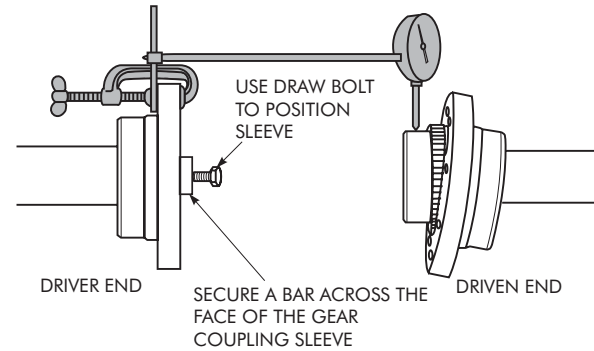

Figure 4
- C. Install and align the Type G gear coupling sleeves and hubs per Manual 458-110. Refer to alignment instructions for couplings with spacer or short floating shaft/and with flex hubs on driver & driven shaft extensions. Figure 4 herein also shows a method of mounting a dial indicator to perform an alignment check.